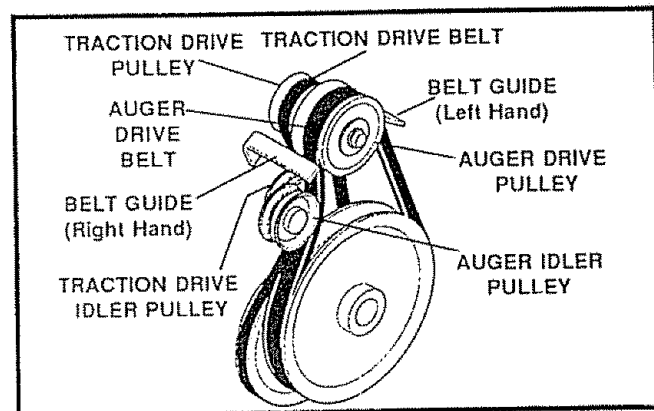

FIG. 28
- Loosen the belt guides (See Fig. 28) and pull away from the engine drive pulley.
- Loosen the nut on the auger idler pulley (See Fig. 28) and pull idler pulley away from the belt.
TRACTION DRIVE BELT (See Fig. 28)